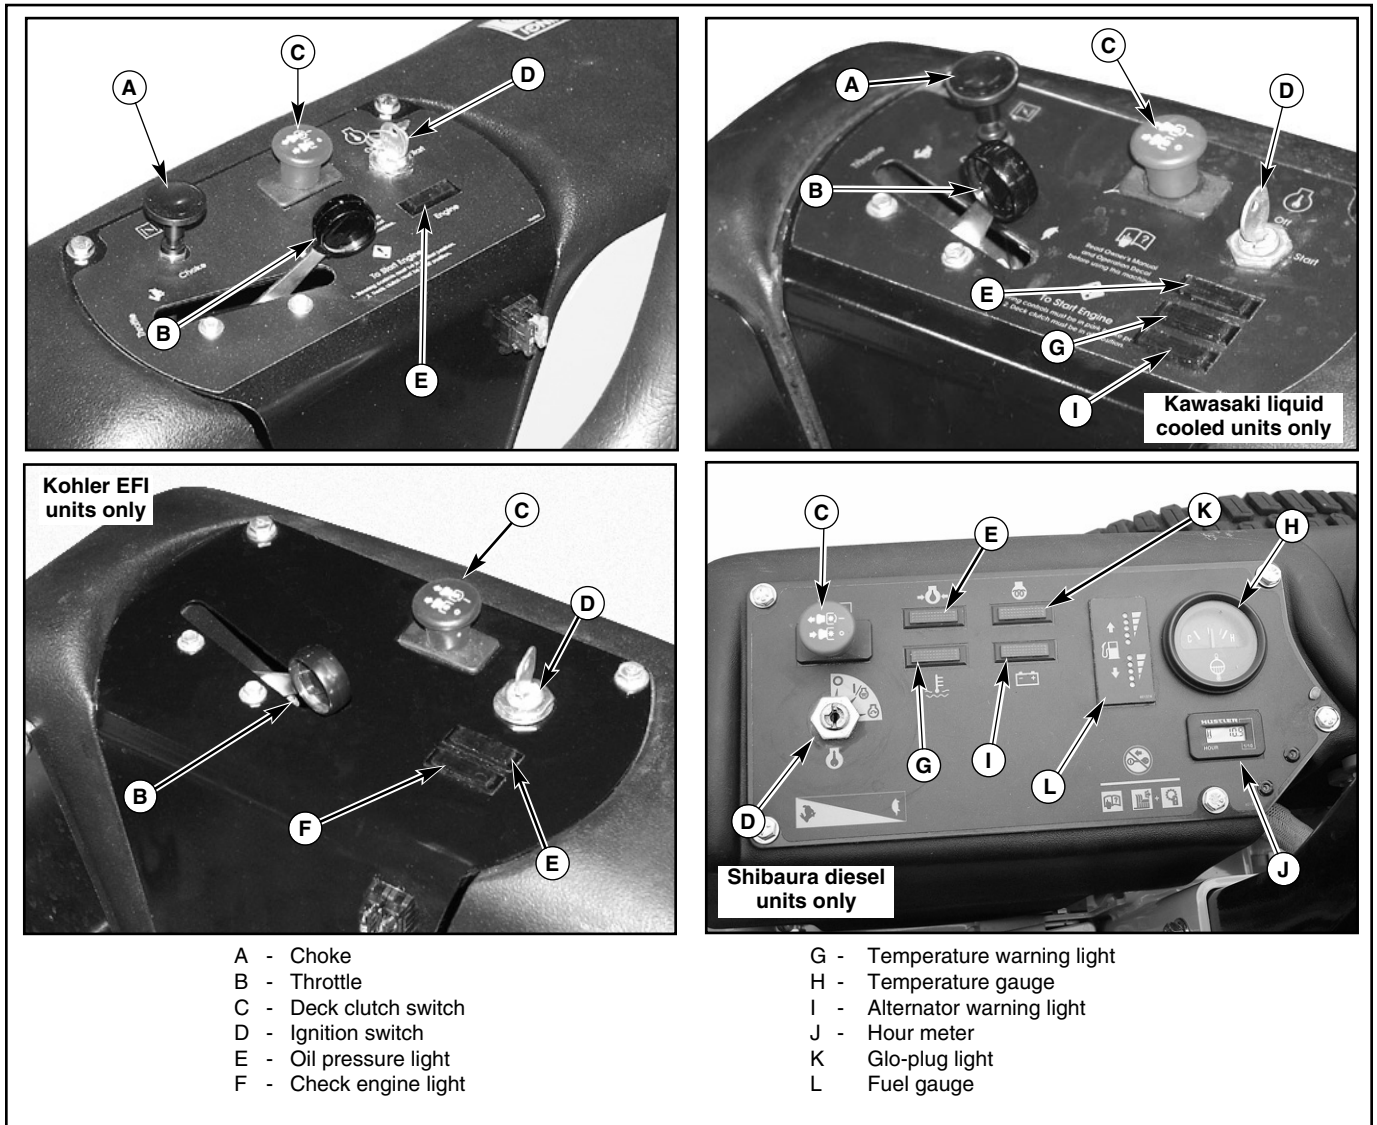

Figure 3-1
- A. Choke control (Fig. 3-1)** – a cable is linked to manually operate the engine choke. When the lever is in the down position, the choke is in the off (run) position. When the lever is pulled up, the choke is in the on (start) position. **Do not** operate the machine in the on (start) position. **NOTE:** The choke control is not used on Models 927053 & 927061 or any diesel powered models.
- B. Throttle control (Fig. 3-1 & 3-2)** – a cable is linked to engine throttle for controlling engine speed. Move lever forward to increase engine rpm, move lever rearward to decrease engine rpm.
- C. Deck clutch switch (Fig. 3-1)** – this switch engages the deck. Pull the switch up to engage and push switch down to disengage the clutch.
- D. Ignition switch (Fig. 3-1)** – a three position switch: “OFF”, “RUN”, and “START”. With key inserted, rotate it clockwise to “START” position; release key when engine starts, and switch will automatically return to the RUN position.
- E. Oil pressure light and alarm (Fig. 3-1)** — this light comes on when the ignition switch is placed in the RUN position and stays lit until the engine is running and a safe oil pressure is developed. If light comes on during operation, shut engine off immediately and locate and correct the problem.
- F. Check engine light (Fig. 3-1)** — refer to Kohler engine owner’s manual for details.
- G. Temperature warning light and alarm (Fig. 3-1)** — this light will come on when the engine coolant temperature reaches an unsafe level during operation. If light comes on, shut down the machine as soon as possible. Never risk continued operation when light remains on; high temperatures can severely damage the engine. Never risk continued operation when light remains on: high temperatures can severely damage the engine.
- H. Temperature gauge and alarm (Fig. 3-1)** — **Hustler Z Shibaura Diesel units only** — this gauge reflects the engine coolant
- I. **Alternator warning light (Fig. 3-1)** — this light comes on when the ignition switch is placed in the RUN position and stays lit until the engine is running and the battery is being charged. If light comes on during operation, shut engine off immediately, locate and correct the problem. If light remains on while engine is running, it indicates that the battery is being discharged.
- J. **Electronic hour meter (Fig. 3-1 & 3-6)** — registers 1/10 hour increments up to 9,999.9 total hours. Connected to the ignition switch, the meter records the accumulative time while the ignition key is switched to the RUN position. **NOTE:** The hour meter is found in various locations on different tractors.
- K. **Glo-plug light (Fig. 3-1)** — this light comes on when the ignition switch is turned to the “Pre-Heat/Run” position and held. It shows that power is going to the glo-plugs.
- L. **Fuel tank gauge (Fig. 3-1)** — This gauge shows the fuel level for each fuel tank. The red light indicates that the fuel tank is empty and the operator needs to re-fuel immediately. The upper gauge indicates the fuel level in the right fuel tank and the lower gauge indicates the fuel level in the left fuel tank.